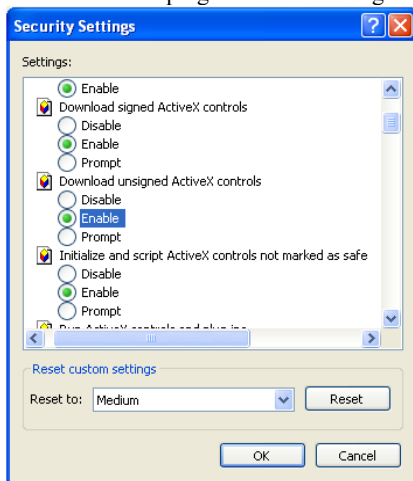

Fig 4-2
- ③ Enable all the sub-options under “ActiveX controls and plug-ins”. Refer to Fig 4-2